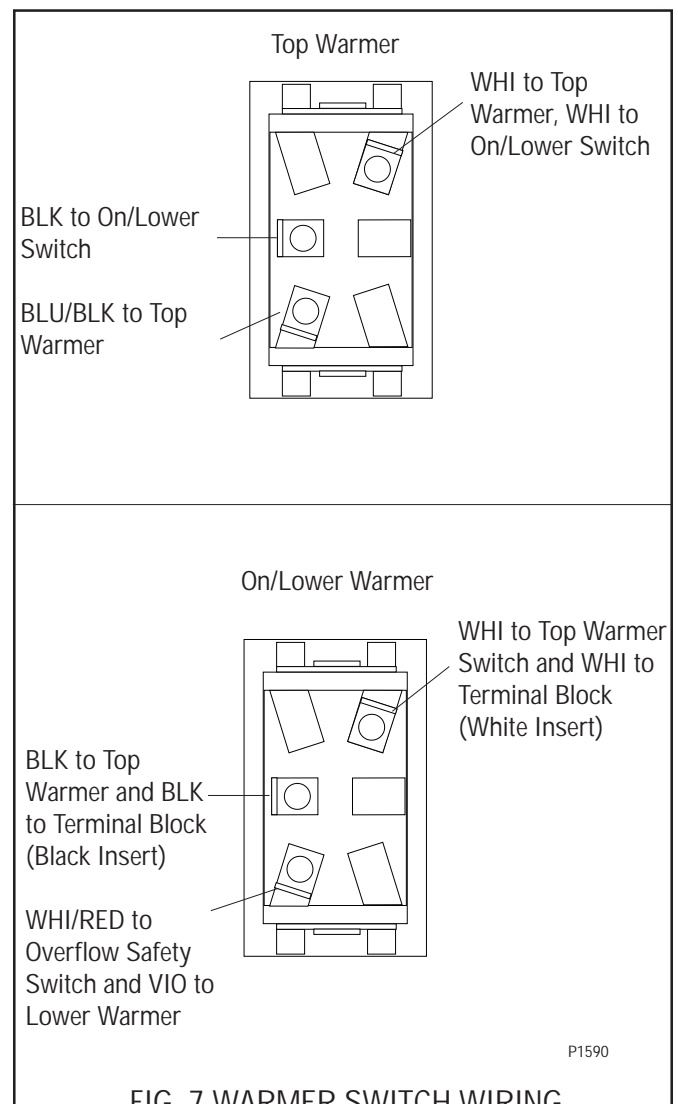

FIG. 7 WARMER SWITCH WIRING
3. Refer to FIG. 7 when reconnecting the wires.